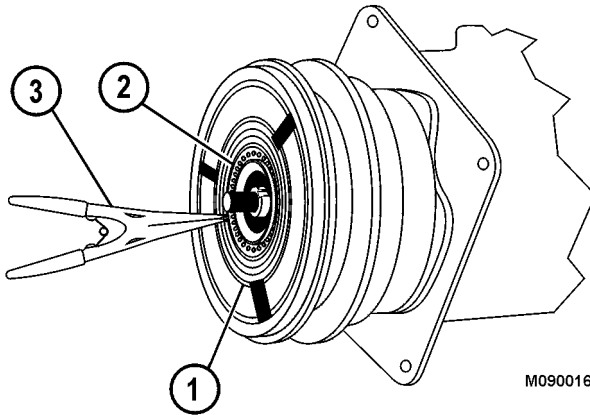

FIGURE 4-22.
7. Use retaining ring pliers (3, Figure 4-22) to remove pulley retainer ring (2) from pulley (1).